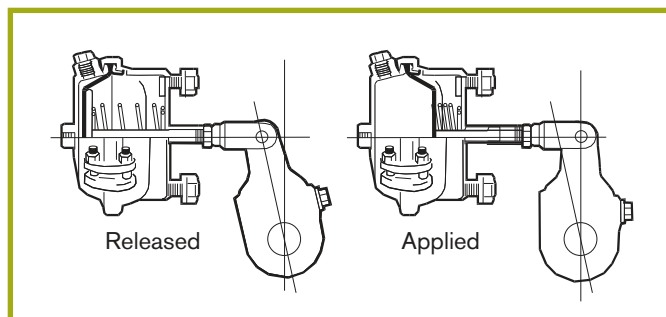

Figure 52. Slack adjuster and push rod angle.
- With brakes released, check that the angle formed by the slack adjuster arm and push rod is greater than 90 degrees (Fig. 52). All slack adjusters should be adjusted to this same angle.